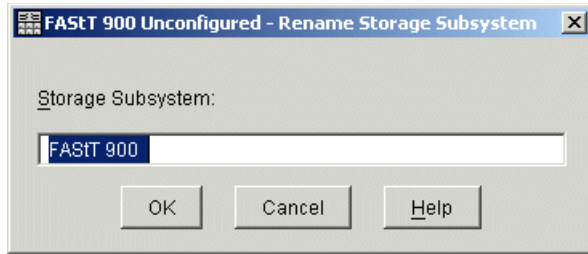

Figure 5-20 Renaming FAST
2. Enter a new name for the subsystem in the Rename Storage Subsystem dialog (Figure 5-20 on page 142).